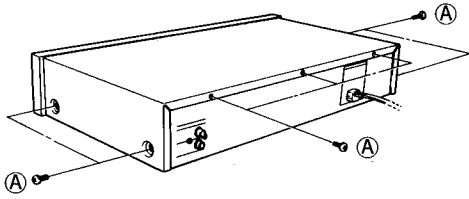

Fig. 1
Remove 7 screws (A), then lift and remove the Cabinet Top. (Fig. 1)